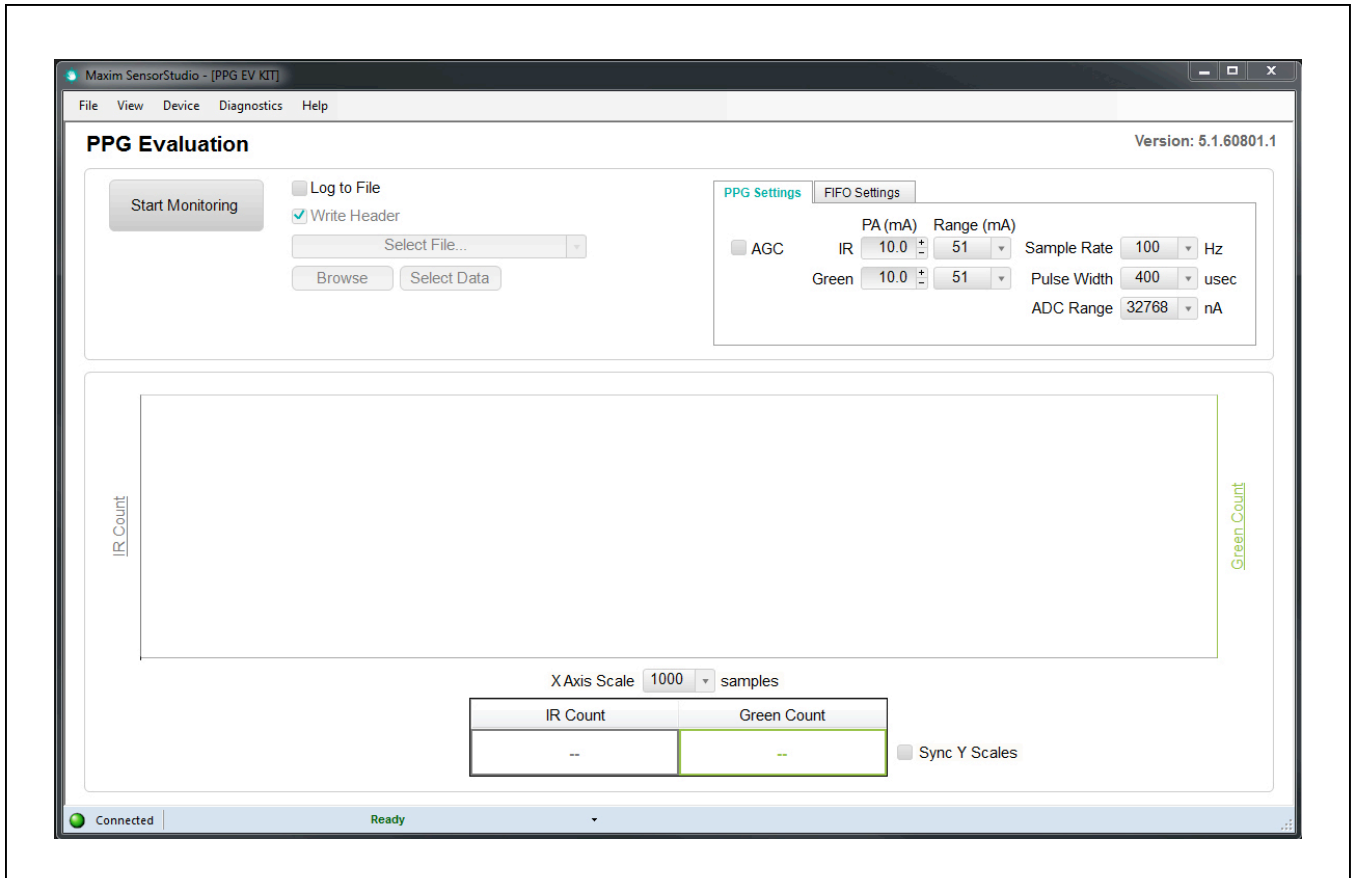

Figure 6. Maxim SensorStudio GUI – PPG Evaluation Page
- 8) From the top menu, choose **View** and then click on “*PPG_EvKit*”. The MAX86160 PPG evaluation page will then appear, as shown in Figure 6.